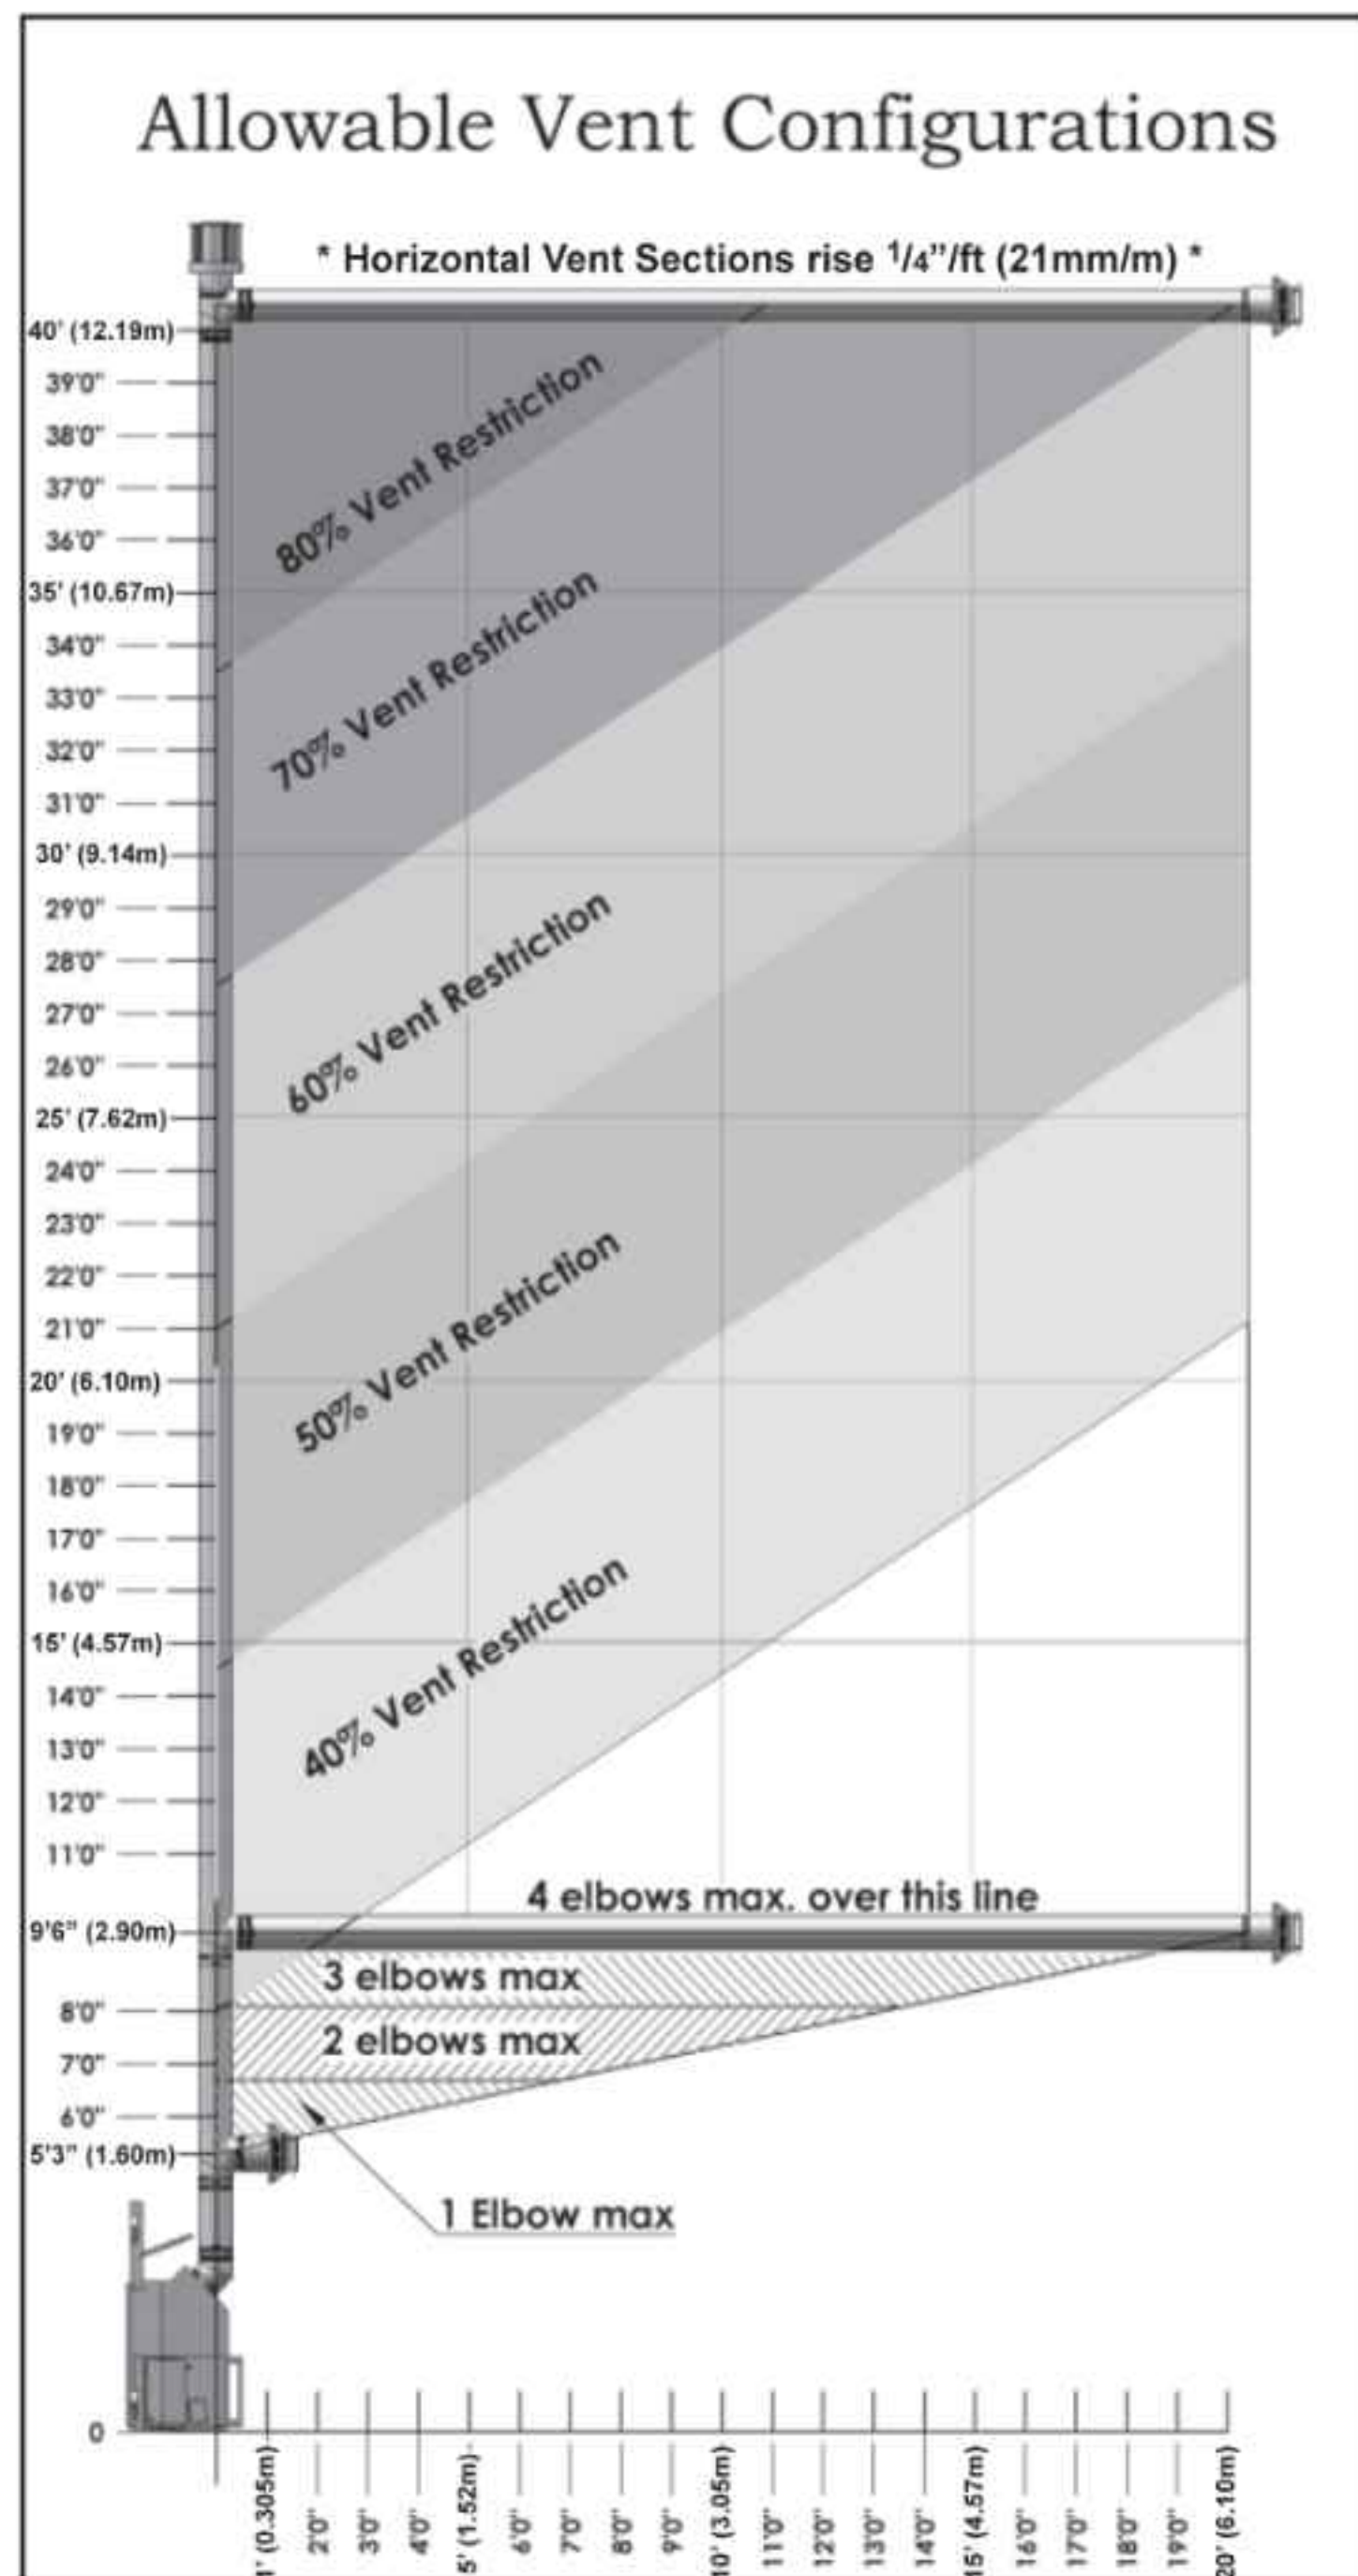

Figure 23. Allowable Vent Configurations Chart.
The vent chart, in Figure 23, illustrates the vent configurations that have been tested and approved for use with this appliance. 45° elbows are acceptable for this installation and may be used instead of 90° elbows. You may use two (2) 45° elbows for every 90° elbow shown in this chart.
The restrictor settings shown in Figure 23, are recommended. Installation factors such as altitude, prevailing weather conditions such as temperature or wind, or the number of elbows used may affect your final restrictor settings. Insufficient restriction may cause pilot outages or reduced efficiencies. Too much restriction may lead to elevated operating temperatures, poor flame appearances, sooting or carbon deposits building up on burner effects or window glass.
- 4) Refer to the Vent Chart (Figure 23) for selection of the appropriate Restrictor.